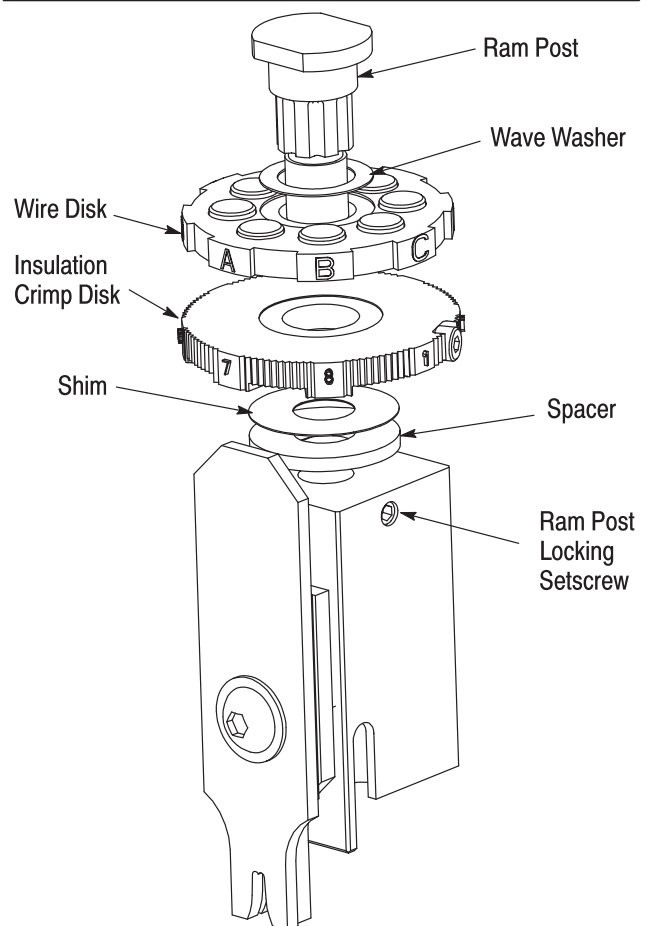

Figure 5
The upper crimp height disk (Figure 5) consists of a plastic carrier and up to eight hardened pins which engage the post adapter on the termination machine ram. When the carrier is rotated, the pins are indexed into position as required to change the final applicator crimp height.
3. Loosen the setscrew on the side of the ram to unlock the ram post. See Figure 5.